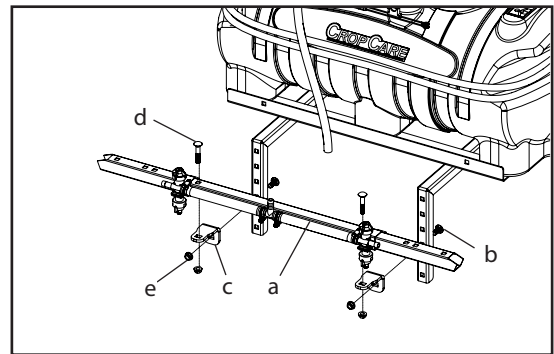

Figure 3: Center frame mounting
1. Bolt the boom mounting clips (c) to the center section (a), using 3/8" x 2" bolts (d) and 3/8" flange nuts (e). Bolt the boom mounting clips to the sprayer frame using 3/8" x 1" bolts (b) and 3/8" flange nuts (e) (Figure 3).